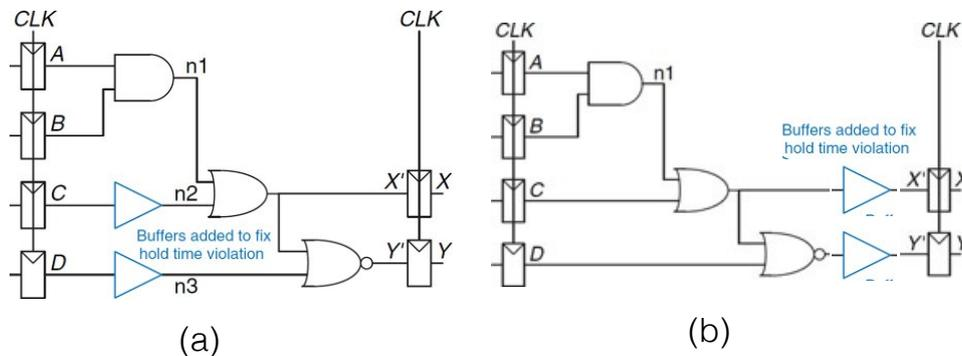

Figure 9.2: Two proposed solutions to solve Charlie's hold-violation problem. (a) Alyssa's proposal. (b) Ben's proposal.
- Your other co-workers Alyssa and Ben have each proposed a solution to Charlie's hold-violation problem. Their proposals are shown in Figure 9.2. The buffers they have added consist of two inverters. A buffer has the same delays as the other logic gates use in Charlie's circuit. It is now your task to determine if either of them, or both, will work to avoid the hold violation. If both solutions will work, which one is preferable? Motivate! (5 p)